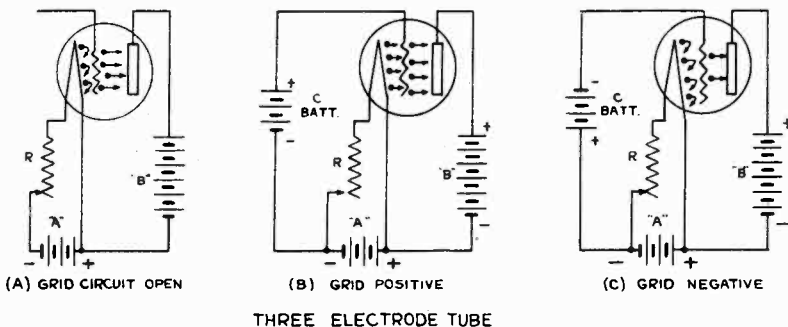
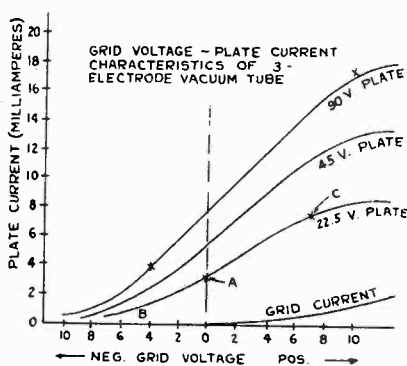

Figure 39: Action of the grid in a three-electrode vacuum tube.
Figure 41.
For amplifying and detecting, it has given way to the three-electrode tube, developed by Dr. Lee DeForest in 1907. This tube is essentially the same as the former, but has in addition a third electrode in the form of a metallic mesh, called the grid, which is interposed between the filament and the plate. Since in the two-electrode tube, with a given filament temperature, the flow of electrons depends on the potential of the plate, if a third electrode, or grid, is inserted between the filament and plate so that the electrons must go through the open spaces in it on their way to the plate, then, by varying the potential of this third electrode the electron flow can be controlled. When it is made positive with respect to the negative end of the filament by means of a battery or some other source of potential, Fig. 39-B, it tends to neutralize the effect of the space charge, thus permitting more of the electrons to get to the plate, and so increasing the plate current. When it is made negative (by connecting
the negative terminal of the battery to it), Fig. 39-C, it assists the space charge in repelling some of the electrons back to the filament, so fewer electrons get to the plate and the plate current is decreased. When the grid is made positive, it collects a few electrons itself, acting like a second plate, giving rise to a current in the grid circuit from grid to filament. This should be remembered, as it becomes important in the practical use of the three-electrode tube in modern receiving sets.
65. CHARACTERISTIC CURVES: The behavior of vacuum tubes is best indicated by the curves showing the relation between various factors. The actual change in plate current due to a change in potential on the grid of an ordinary radio detector or amplifier tube is shown in Fig. 41 by the characteristic curve. This can be obtained by measuring with a milliammeter (a sensitive current measuring instrument) the amount of plate current passing when there is a definite voltage on the grid. The use of a "C" battery, Fig. 39, presents a convenient way of placing a potential on the grid. It can be made stronger or weaker by varying the battery, and can be made positive or negative by reversing the connections of the battery.